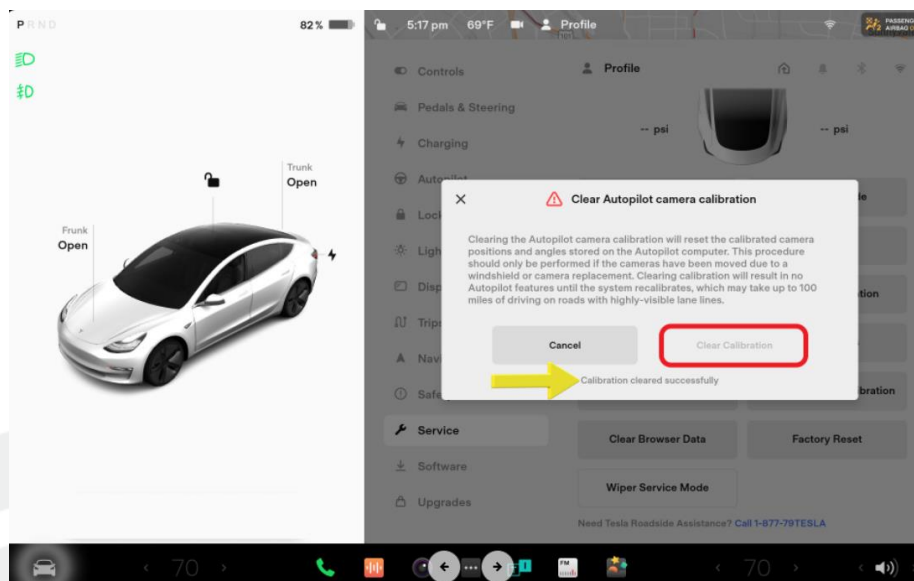

Figure 16 – Model 3 shown; Model Y similar
20. On the vehicle touchscreen, touch **Controls** > **Service** > **Camera Calibration** > **Clear Calibration**, and then wait for the calibration data to clear and for the calibration window to automatically close (Figure 16).